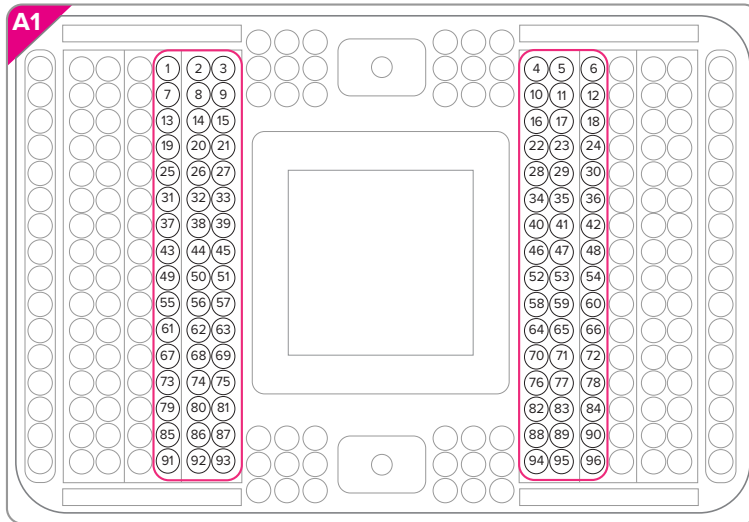

Figure 7: Pipette map of reaction products on the C1 IFC
- 6 Using an eight-channel pipette, pipet the harvested amplicons from the inlets according to Figure 7 and Table 12 on page 29 and place in the diluted harvest plate: